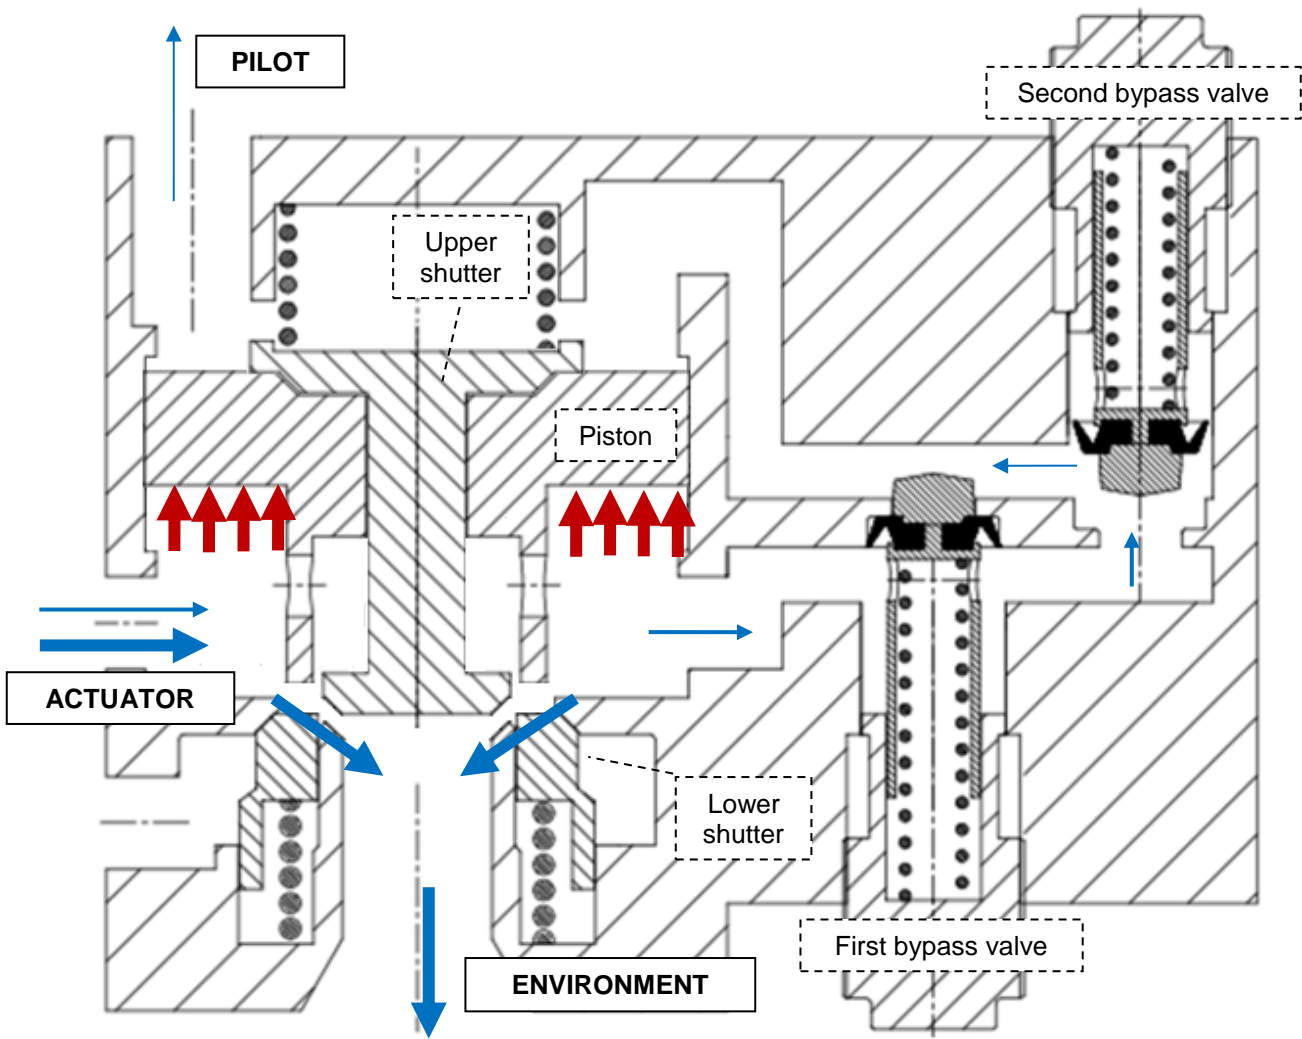

Figure 8 - exhaust setup: modulating mode (sketch)
- b) if the flow rate is greater than a threshold value depending on bypass valve adjustment, the bypass valve throttling generates a pressure drop between the two side of the piston and the working fluid pushes up the piston and the upper shutter, allowing the connection between the actuator chamber and the exhaust chamber. This case is called "modulating mode" (figure 8);